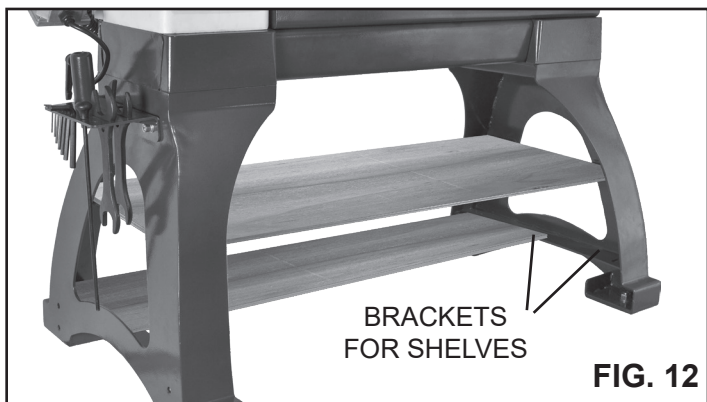

FIG. 12
**NOTE:** Installing a full size shelf between the assembled legs is not possible. So, construct your shelves in pieces that can be secured together in place on the brackets. Fig. 12.